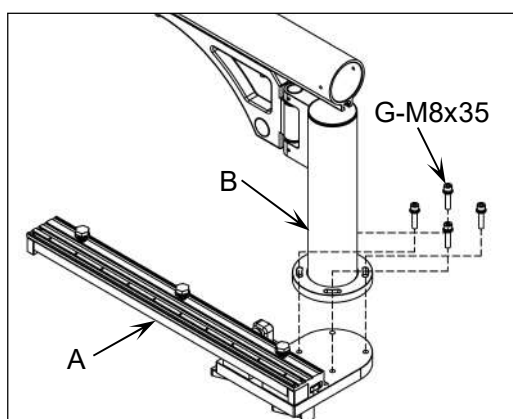

Fig. 8
1. As shown in **Fig. 8**, install the column cantilever assembly (**B**) onto the column mounting bracket (**A**) by aligning the slotted flange with the four holes on the bracket plate and securing the column to the bracket using four sets of M8 × 35 screws (**G**).